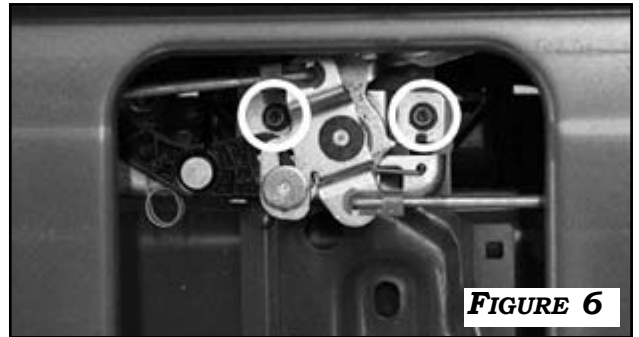

FIGURE 6
6. REMOVE 2 BOLTS AND ROD CLIPS TO RELEASE THE TAIL GATE HANDLE ASSEMBLY. **FIGURE 6**